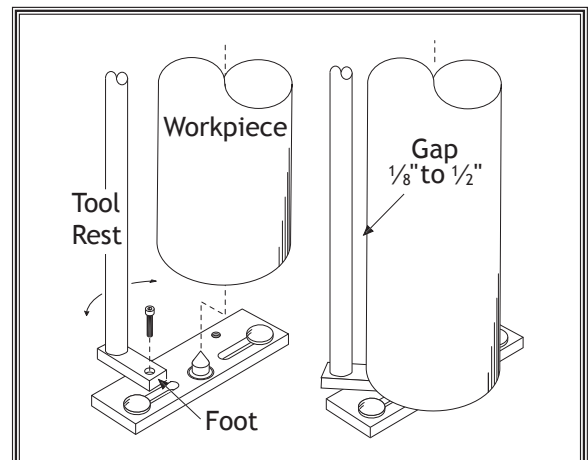

Figure 5. Tool rest installation and adjustment.
8. Retract the drill press spindle, and fasten the tool rest foot onto the base with the cap screw, as shown in **Figure 5**. Later, use the workpiece to estimate where to tighten the tool rest in place to achieve a gap of $\frac{1}{8}$ " to $\frac{1}{2}$ " between the workpiece and the tool rest.